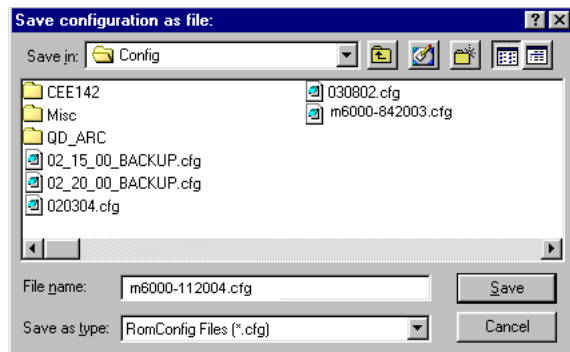

Figure 7. Dialog for saving Model 6000 configuration
4. Select **Configuration**. This option will open the **Save configuration as file** dialog (Figure 7).